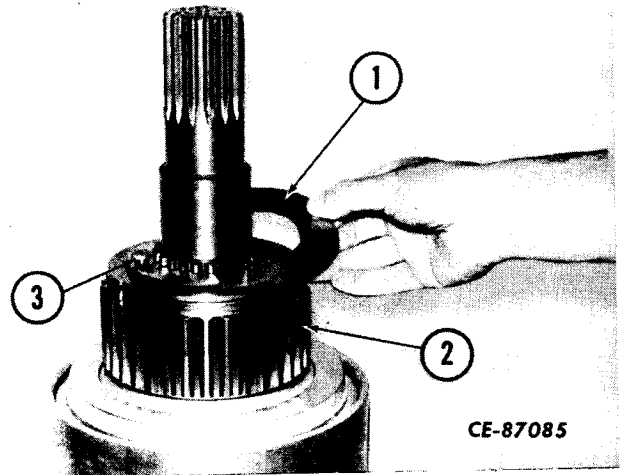

Figure 4-46
Install hub assembly (2, Fig. 4-46) and hub retainers (1). Tighten the retaining cap screws (3) to the recommended torque (refer to "SPECIAL TORQUES").